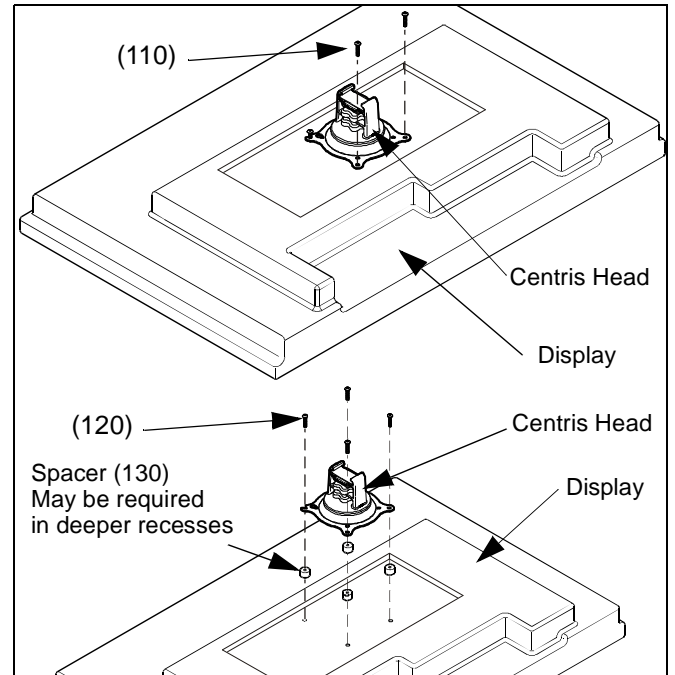

Figure 10: Mount Centris Bracket to Display
4. Place four nylon spacers (130) over four mounting holes in display back (see Figure 10).
5. Align Centris head mounting holes with four nylon spacers (130) (see Figure 10).
6. Secure Centris head to display using four M4 x 10mm or four M4 x 20mm Phillips Pan Head Screws (110 or 120) and four spacers (130). (see Figure 10).